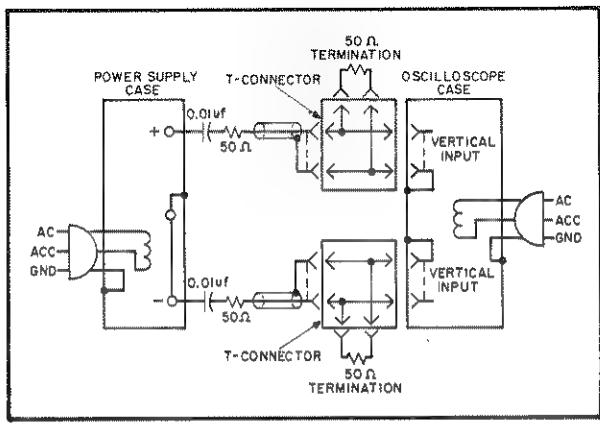

Figure 5-7. Noise Spike Test Setup
- As shown in Figure 5-7, two coax
5-34 The circuit of Figure 5-7 can also be used for the normal measurement of low frequency ripple and noise; simply remove the four terminating resistors and the blocking capacitors and substitute a higher gain vertical plug-in in place of the wideband plug-in required for spike measurements. Notice that with these changes, Figure 5-7 becomes a two-cable version of Figure 5-6C.